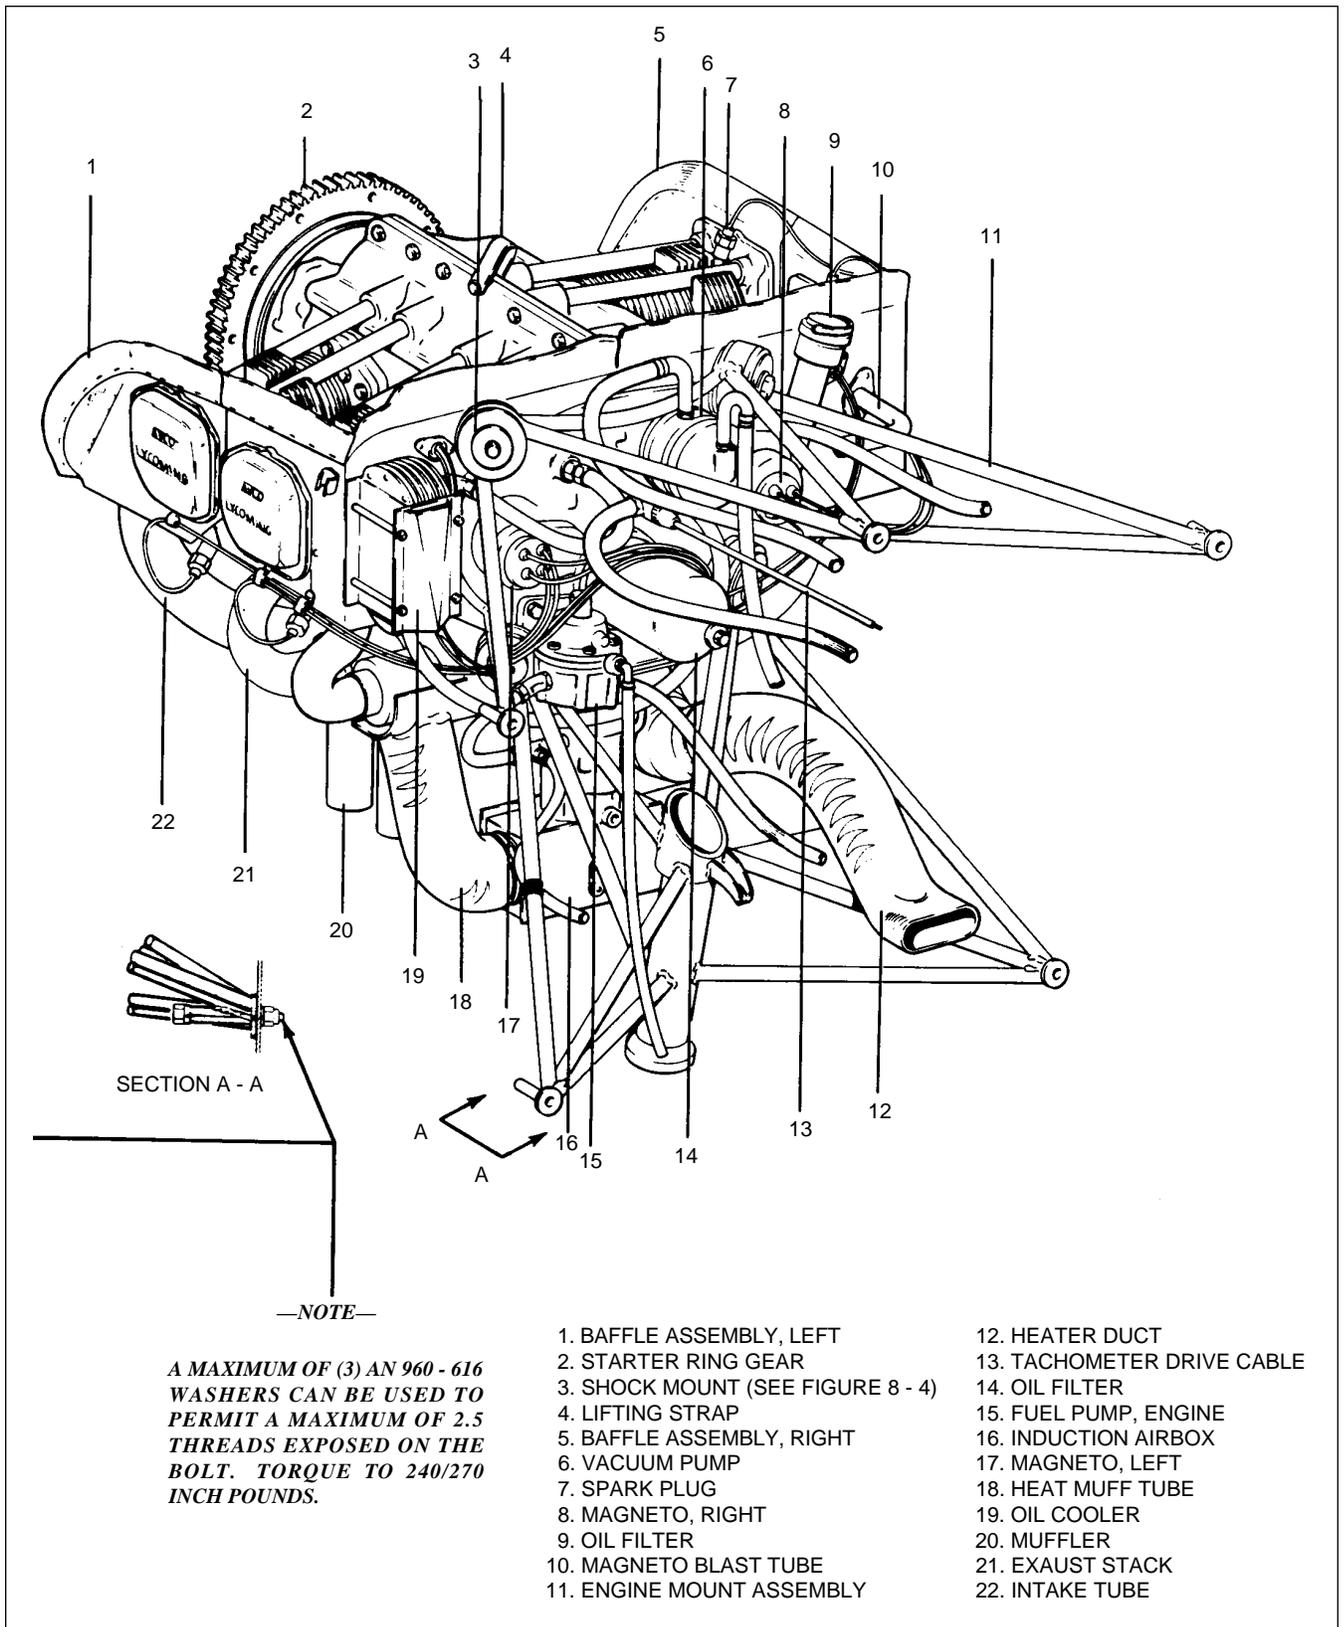

Figure 8-3 Engine Installation
8-11. REMOVAL OF ENGINE. (Refer to Figure 8-3.)
**8-12. INSTALLATION OF ENGINE.** (Refer to Figure 8-3.)